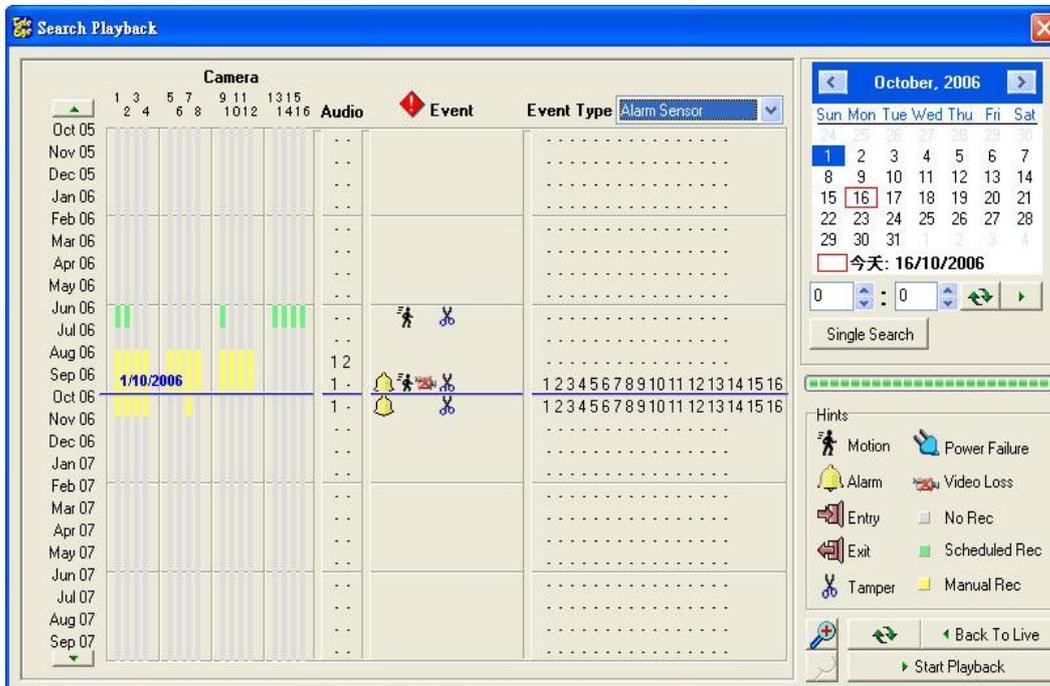

Fig 7.2b
Step 2 : {Search Playback} panel pop up as shown on. User can find out event occur at which time interval and select the record video to watch as shown on Fig 7.2b. There are three event type: Alarm Sensor, Motion Detection and Video Loss.